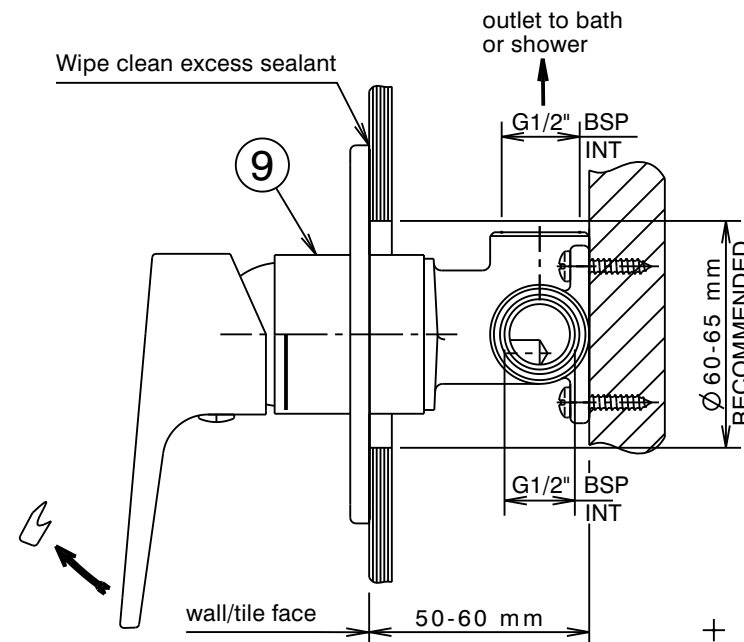

Fig. 1
Installation (Fig. 1 & 2)
* Bottom face of sleeve (9) must be horizontal to align with tile joints.
- 2) **Trim kit:** Apply a suitable clear sealant to the back face of the cover plate (5), leaving an unsealed section at the bottom for drainage. Carefully fit the cover plate (5) onto the mixer body (9) then push the cover plate (5) firmly against the wall/tile face. Wipe clean any excess sealant from the chrome surfaces & the wall/tile face (See Fig. 1).
- 3) Fit handle (1) taking care that it is pushed fully onto cartridge stem, then tighten grub screw (4) using the 2.5mm allen key (3). Fit plug (2), taking care not to damage the decorative finish.